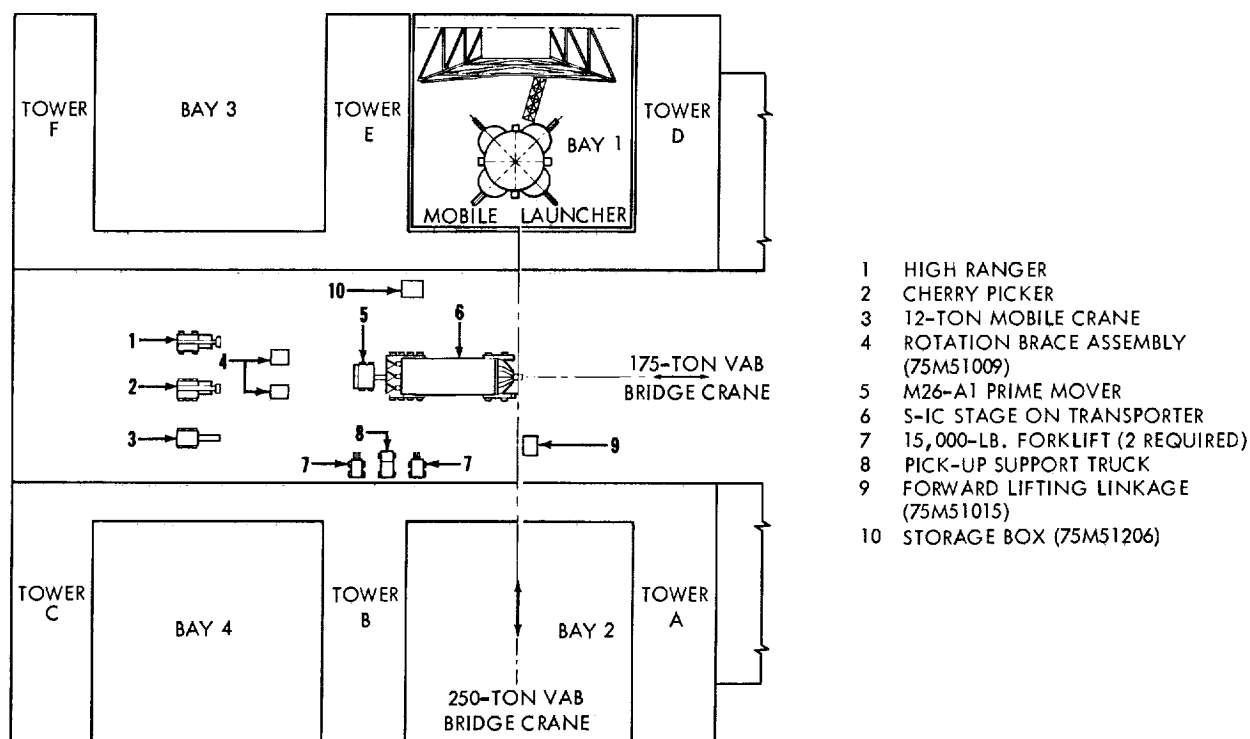

Figure 10-1. VAB Equipment Position For S-IC Stage Erection
- c. Position the transporter and S-IC stage in the VAB transfer aisle position per figure 10-1.
10-7. HANDLING EQUIPMENT POSITIONING. Load the following equipment on the flat bed trailer and position on floor near S-IC stage per figure 10-1:
- b. Move S-IC stage to proper position to place on mobile launcher in Bay 1 per figure 10-1. A mirror arrangement will be utilized for Bay 3.